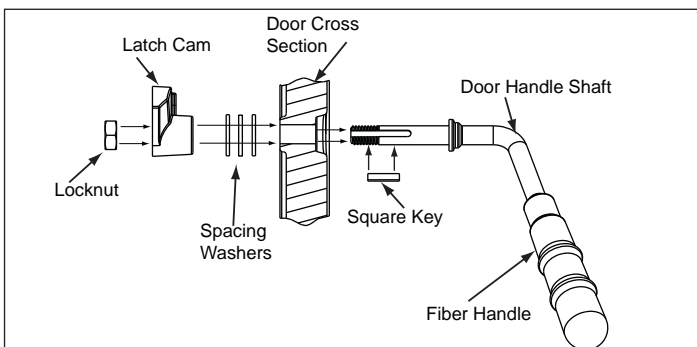

Figure 19.2
2. Install additional washer(s) as shown in **Figure 19.2**
6. Install fiber handle. **Figure 19.2**